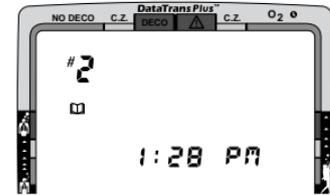

Fig. 76 - Log Mode
5. Press the Advance/Left button once, to display the Time of Day (Fig. 76) when the dive started.